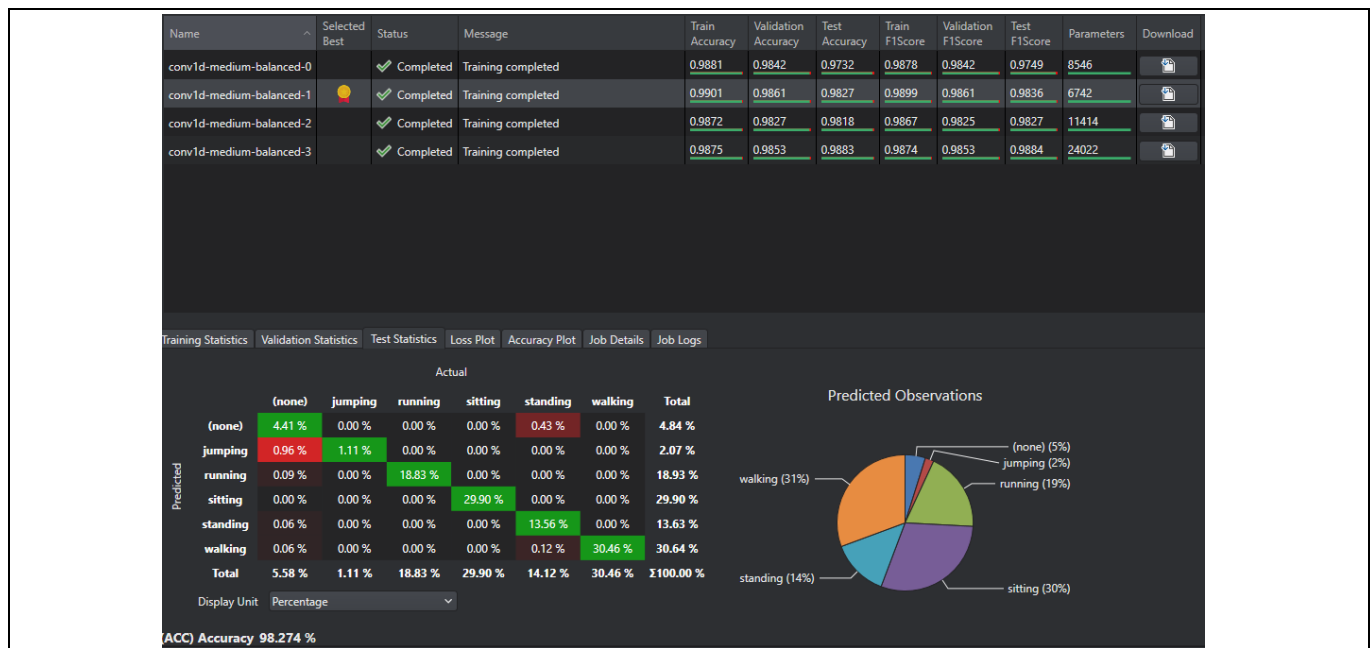

Figure 38 Model training statistics
5. Once the **Status** for each model has changed from **Started** to **Completed** the model's results can be validated. Select one of the models and the training statistics for that model as shown in Figure 38.